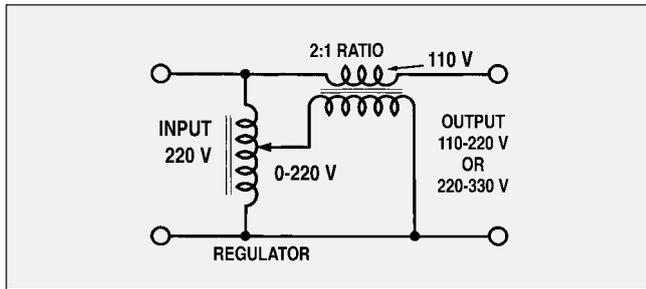

Fig. 44 - Buck or boost circuit
**Buck or boost circuit (Fig. 44)**